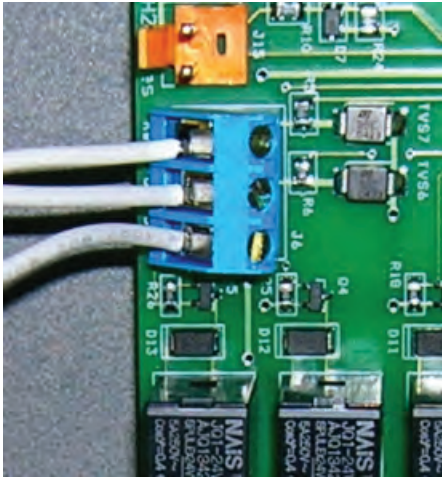

Figure 25. Remote Pool-Off_Spa Connection (3-Wire Connection)
4. Connect the wiring from the pool/spa control system to the heater remote control terminal. See Figure 25.